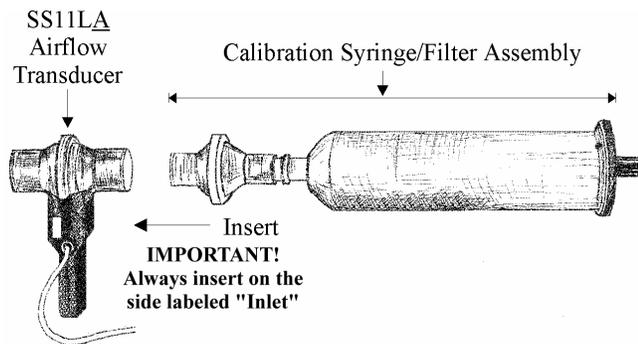

Fig. 13.5
- Insert** the Calibration Syringe/Filter Assembly into the airflow transducer (Fig. 13.5).
If using **SS11LA** transducer with removable, cleanable head, always insert syringe assembly on the transducer side labeled "Inlet" so that the transducer cable exits on the left, as shown in Fig. 13.5.